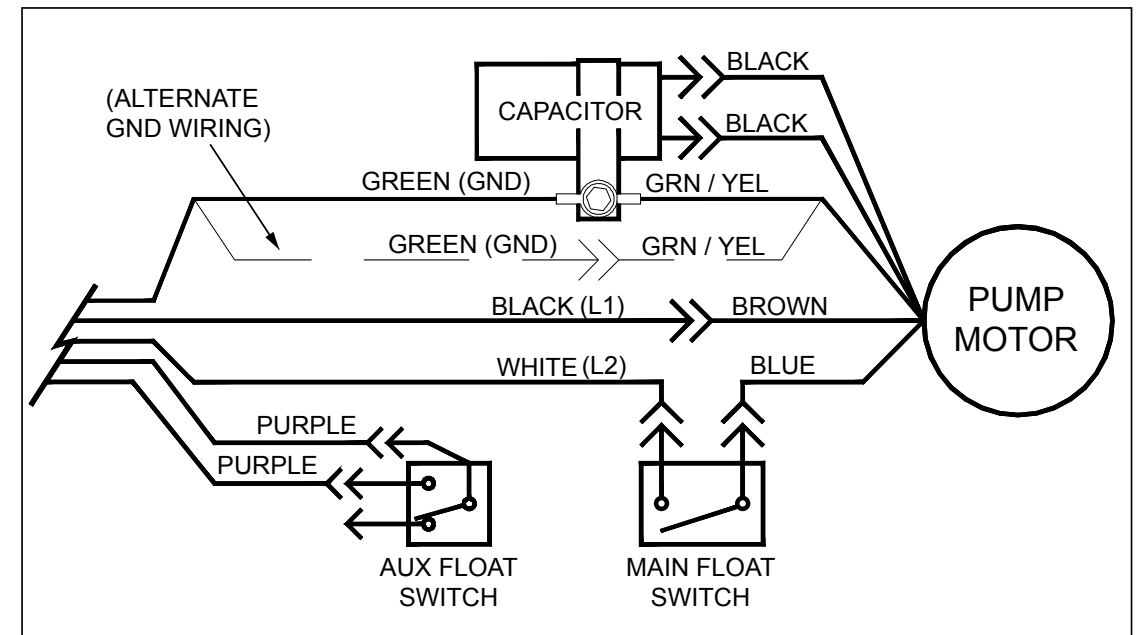

Figure 1. A3X/ A5X Wiring Diagram
2. In the event that electrical compartment connections are removed for pump service, refer to *Figure 1 Wiring Diagram* below or on inside of electrical compartment cover to make proper connections.